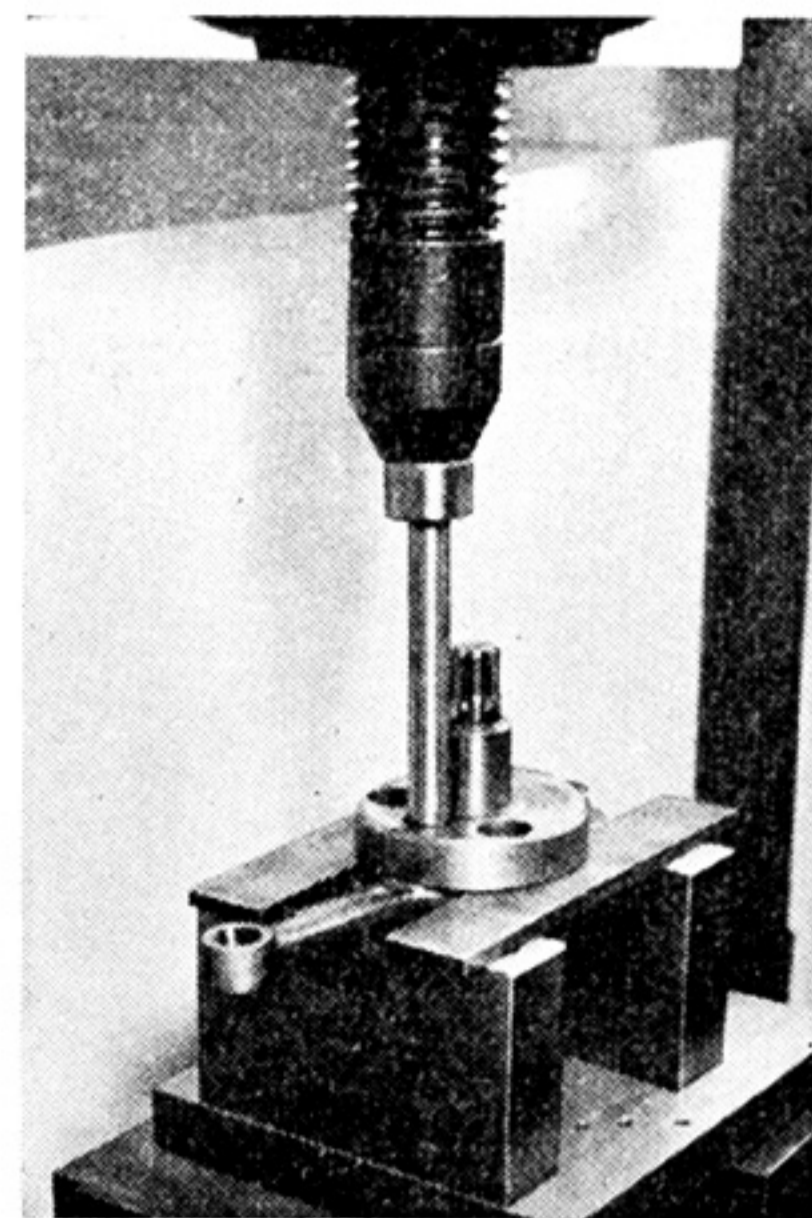
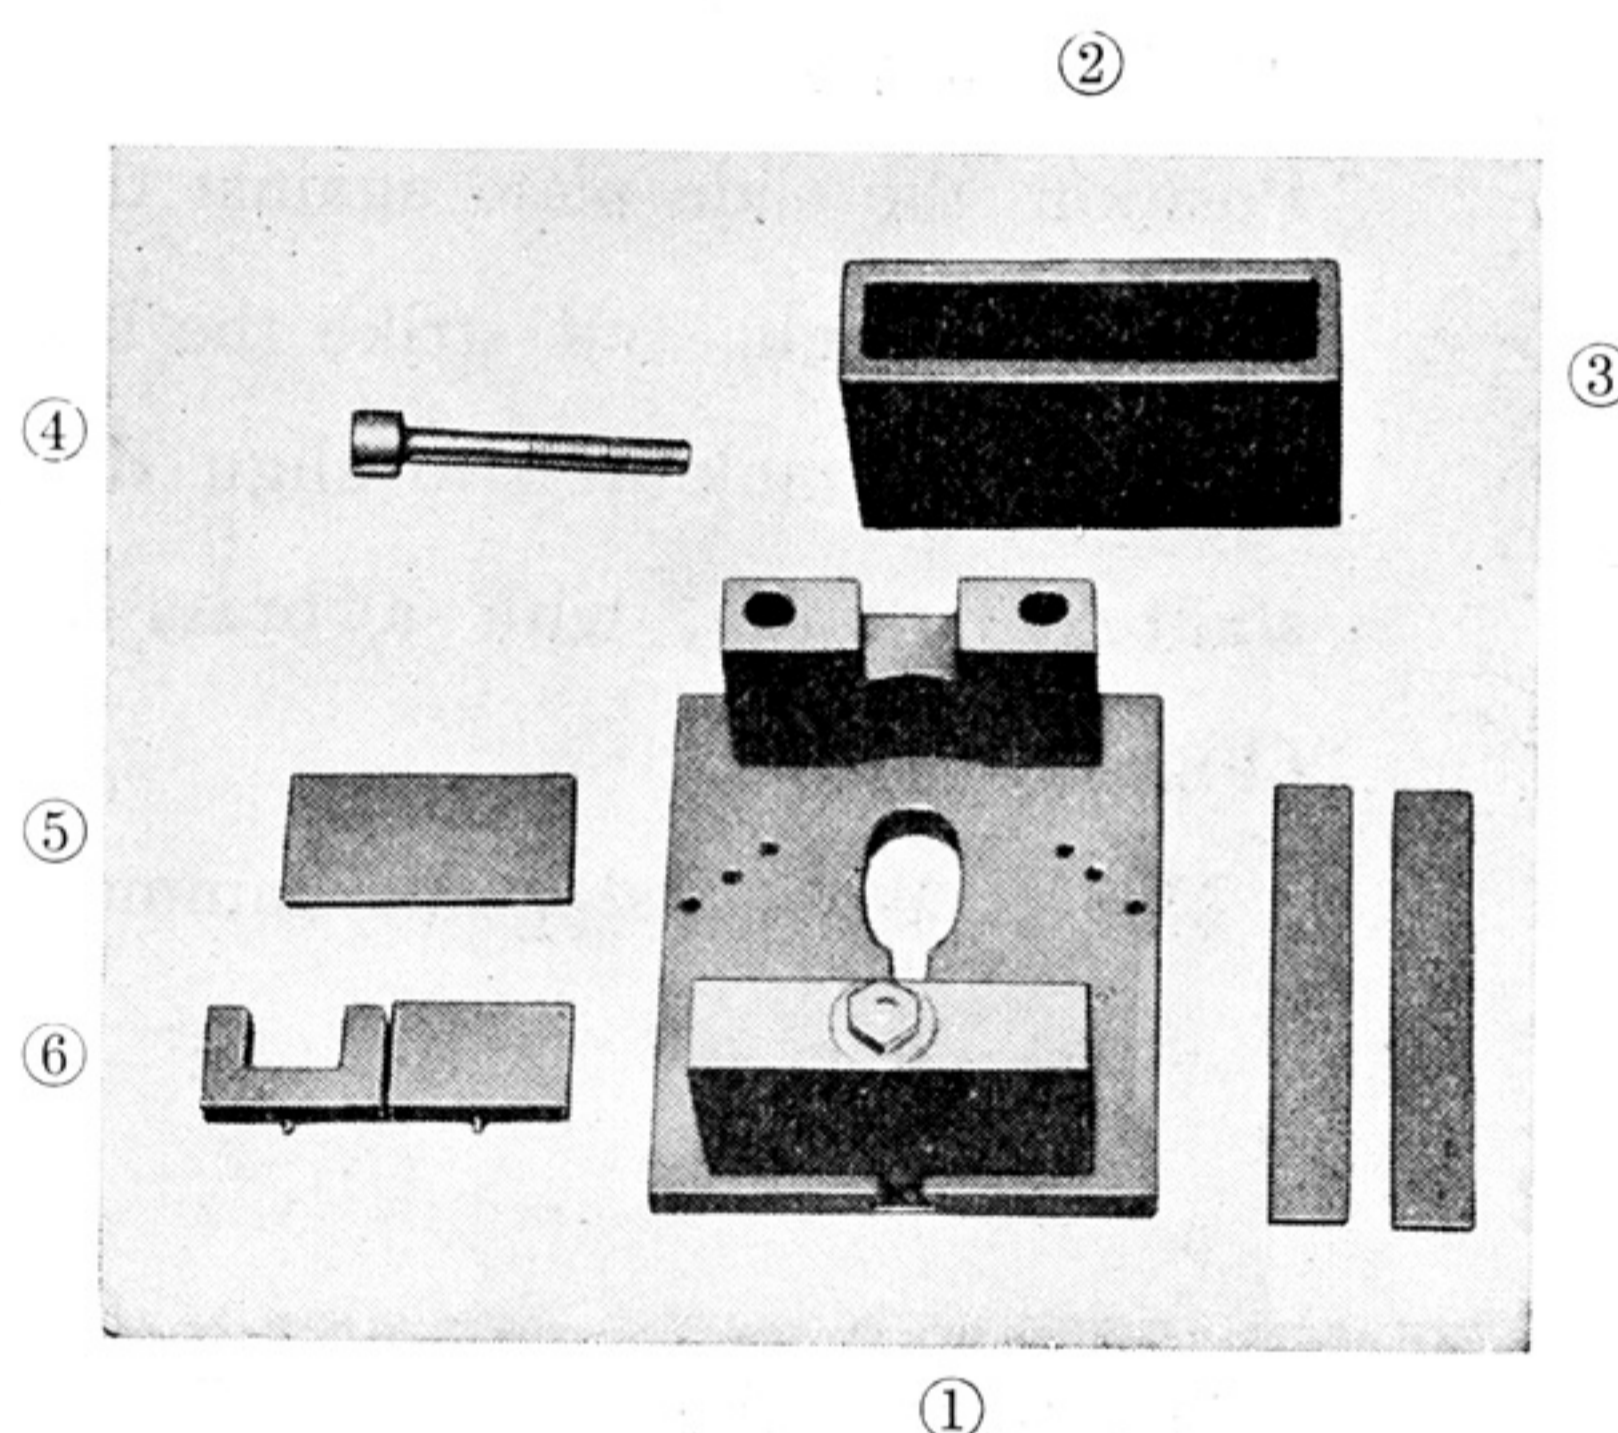

Fig. 3-16-10
Fig. 3-16-11
- f. Remove the crankshaft pin in the manner as shown in Fig. 3-16-10. (For this purpose, use the jigs as shown in Fig. 3-16-11)
To reassemble the crankshaft ass'y use a set of special jigs as shown in Fig. 3-16-11.